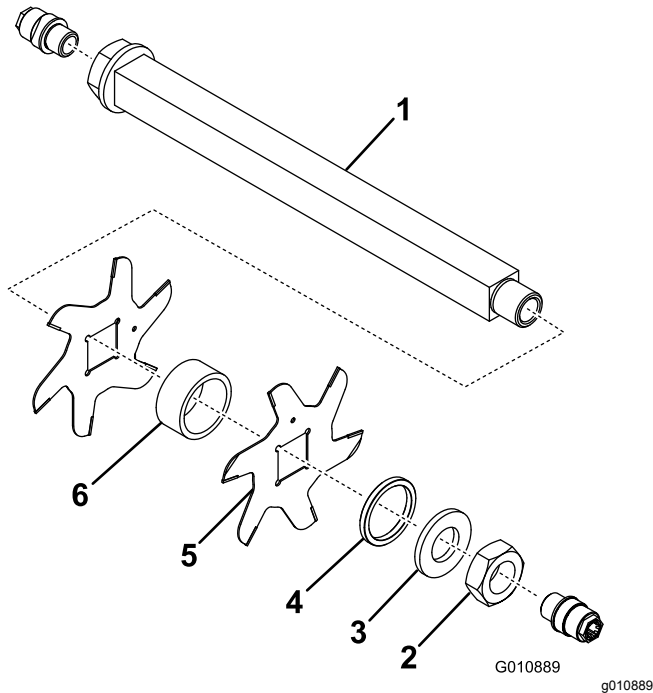

Figure 14
3. Remove the small spacer, the washer, the blades, and the large spacers. Clean and lubricate the square shaft with a light coating of grease to simplify the assembly (Figure 14).